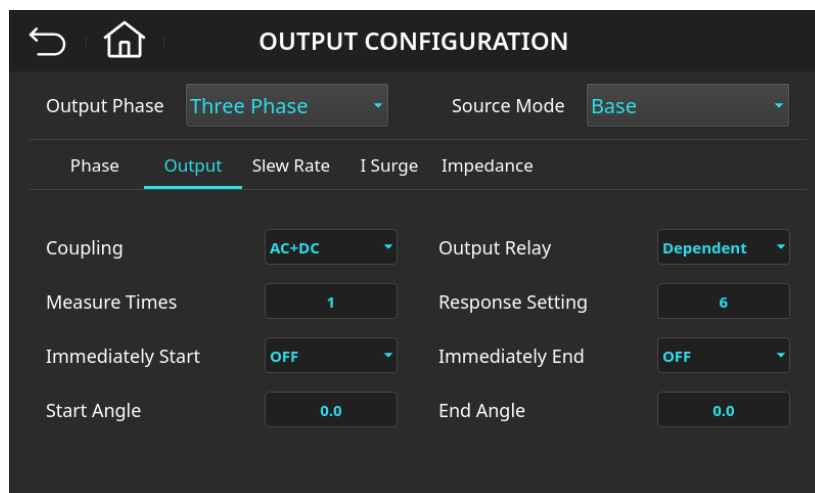

Figure 4-39: Output Configuration (Output) Page – Response Setting Set to 6
3. Enter  and press the  key. The value will change to “6”, as shown in Figure 4-39.